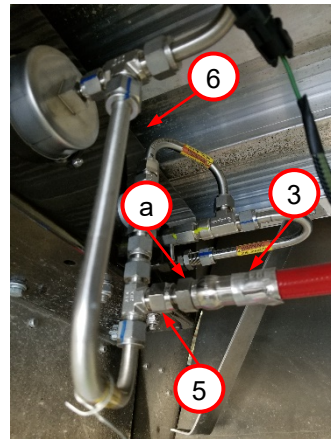

Figure 1:
6. Remove fuel fill panel (3). *Figures 1 and 2*
2. Hand tighten HP flexible fuel hose compression fitting nut (a) on fuel fill panel main fitting (5). *Figure 1*
3. Use a wrench to hold fill panel main fitting (5) body and a second wrench to tighten HP fuel hose compression fitting nut (a). *Figure 1*